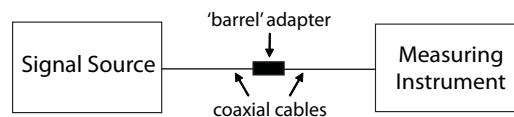

Figure 3 – Setup for Reference Measurements **(R)**
- 1) REFERENCE MEASUREMENTS **(R)** - With the equipment set up as shown in Figure 3, measure and record the signal level (*in dBμV*) at several frequencies over the frequency range to be calibrated.